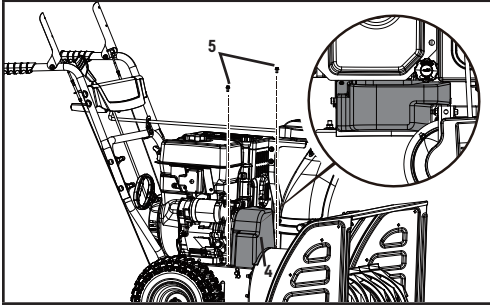

Figure 21
1. Remove the plastic belt cover (4) on the front of the engine by removing two M6 × 16 bolts (5) (Fig. 21).